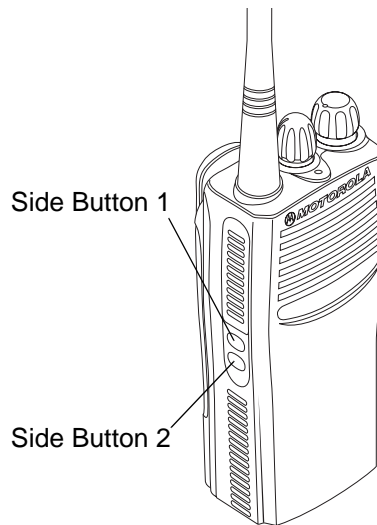

Figure 4-3. Side Button Locations
4. Press and hold the two side buttons at the same time on the source radio and then power up the source radio (Figure 4-3). Both radios produce a “clone-entry” tone.